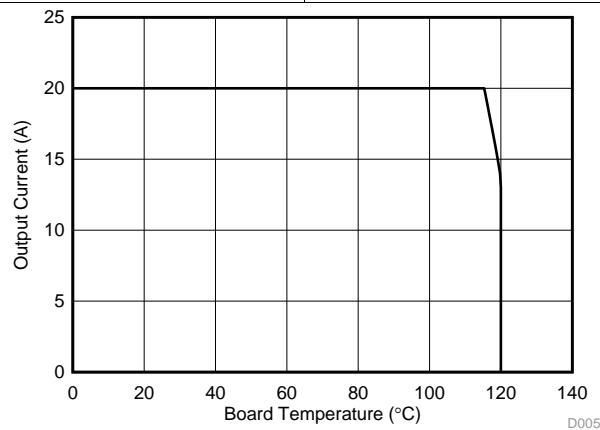

Figure 3. Typical Safe Operating Area (SOA) ⁽¹⁾
The SOA curve in the CSD86336Q3D data sheet provides guidance on the temperature boundaries within an operating system by incorporating the thermal resistance and system power loss. **Figure 3** outlines the temperature conditions required for a given load current. The area under the curve dictates the safe operating area. All the curves are based on measurements made on a PCB design with dimensions of 4 in (W) × 3.5 in (L) × 0.062 in (T) and 6 copper layers of 1-oz copper thickness.